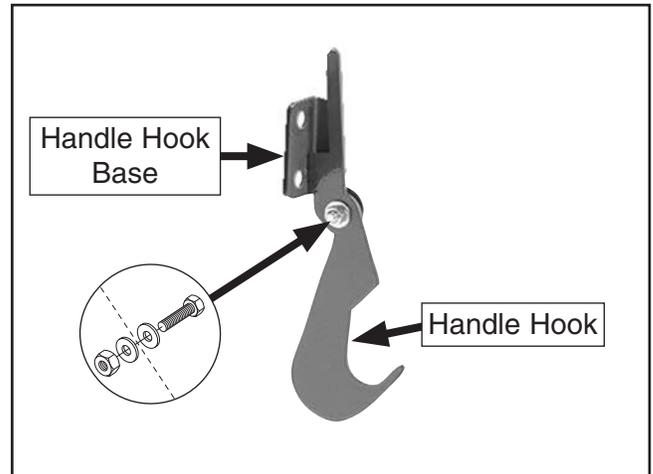

Figure 27. Handle hook attached to hook base.
38. Attach handle hook to handle hook base with (1) $\frac{3}{8}$ "-16 x 1" hex bolt, (2) $\frac{3}{8}$ " flat washers, and (1) $\frac{3}{8}$ "-16 lock nut (see **Figure 27**).